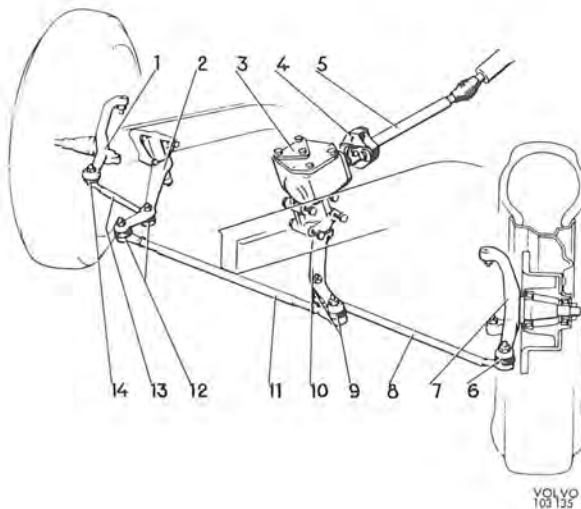
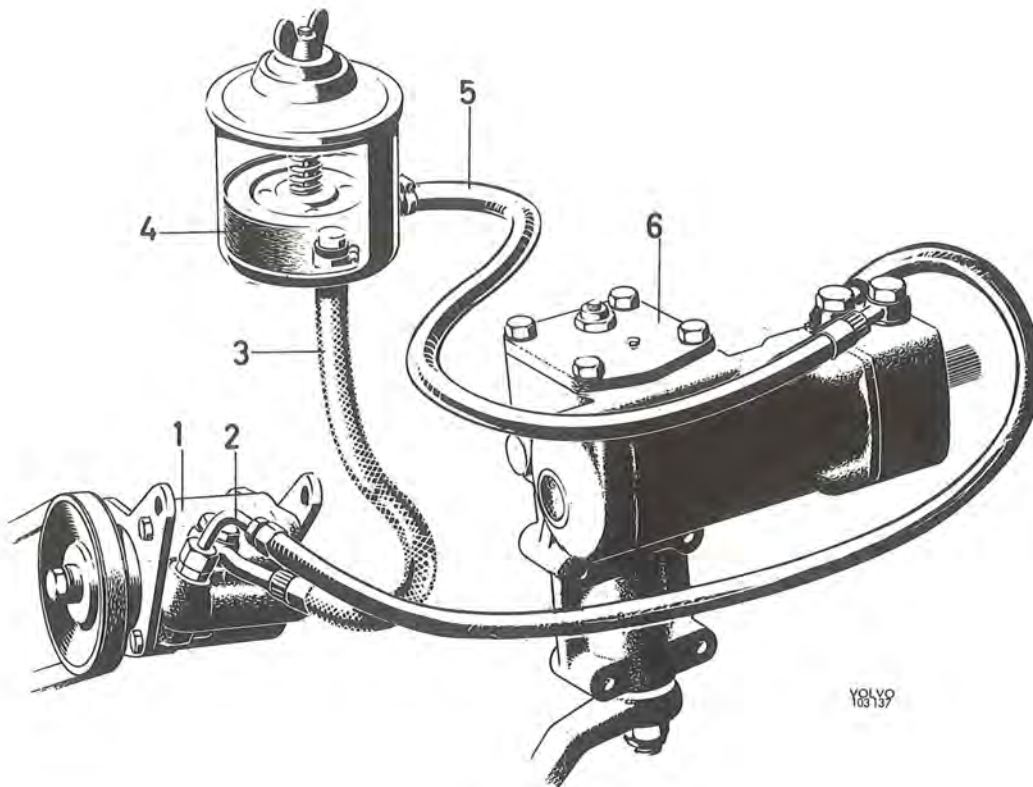
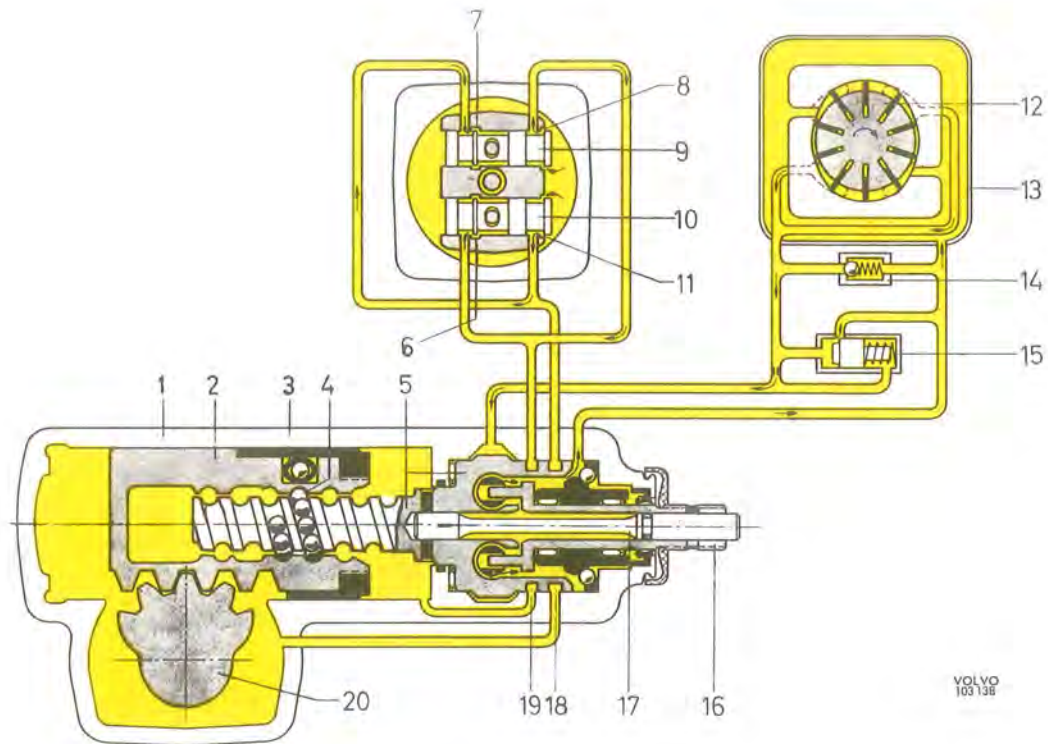

Fig. 6-29. Steering gear components
Fig. 6-32. Servo steering
Fig. 6-33. Function, neutral position
The design of the steering gear is shown in Fig. 6-29. Steering wheel movement is transmitted to the wheels via the steering column (5), steering box (3), pitman arm (10), tie rod (11), steering rods (8 and 13) and steering knuckles (7 and 10).
The upper and lower sections of the steering column (5, Fig. 6-29) are connected by means of a universal joint. The lower section is mounted to the steering
As alternative, this vehicle can be fitted with the ZF recirculating cam and ball nut type servo steering. The main components of the servo system are the steering box, servo pump and oil container with filter. These are connected to the various oil lines, see Fig. 6-32. From the pitman arm the servo steering system is similar to the mechanical steering arrangement, see Fig. 6-29.
The steering gear is of the cam and roller type. In addition to the mechanical section, the servo cylinder and control valves are built into the steering box. The lower part of the steering box (1 Fig. 6-33) is in the shape of a cylinder in which the piston (2) is fitted.
The construction of the steering gear differs with regard to a left-hand steered and a right-hand steered vehicle in the matter of the location of the lever shaft and the steering cam thread. Fig. 6-32 shows the steering gear for left-hand steering while Figs. 6-33 and 6-35 shows that for right-hand steering. The following description of the function applies to both.
The location of the steering valves as well as that of the oil flow are shown schematically in Figs. 6-33, 6-34 and 6-35. In order to illustrate more clearly how
Oil is conveyed under pressure from the pump into an annular chamber round the valve housing (the large circle in the cross-section). In the neutral position (Fig. 6-33) the valves (9 and 10) are so adjusted that oil can pass the intake ports (8 and 11) and flow on to the annular grooves (18 and 19) in the valve housing. From here the oil is led partly to both sides of the piston (2) through the channels (18 and 19), and partly — as long as the valves are in the neutral position — to both the return grooves (6 and 7) at the control valves. From the return grooves oil flows through the return channel back to the container.